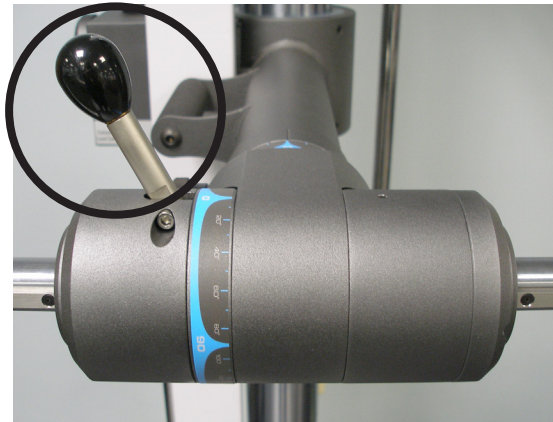

Figure 10-10. UTM Gear Shift Lever
Step 1. Locate the gear shift lever, which is located on the UTM base (Figure 10-10).